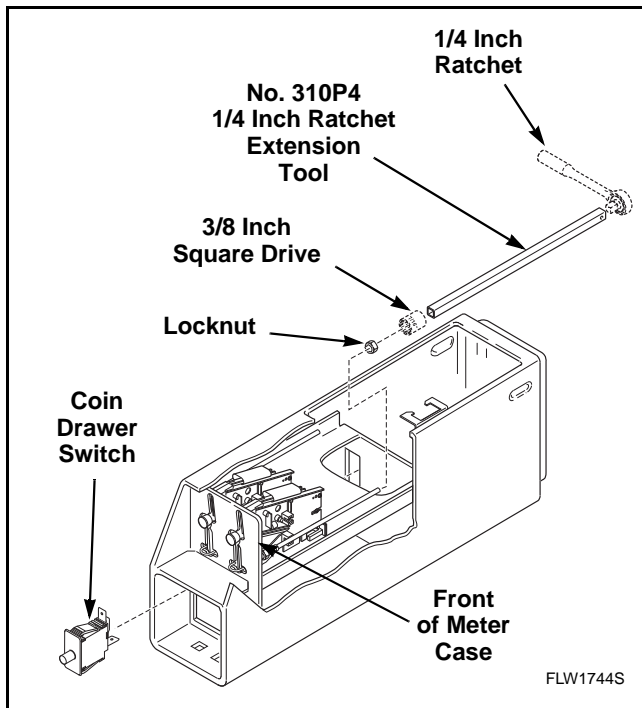

Figure 35
- (4) Press in on locking tabs of coin drawer switch and remove switch through front of meter case. Refer to *Figure 35*.
- (5) Use a 7/16 inch socket with No. 310P4 1/4 inch Ratchet Extension Tool and remove two locknuts holding coin drop to front of meter case. Refer to *Figure 35*.